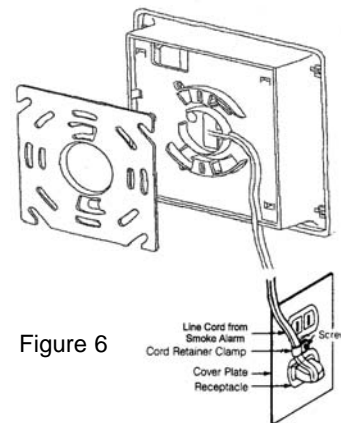

Figure 6
1. Care should be taken to lace cord through slots in base as show in in Figure 6 to insure cord does not interfere with engagement of the mounting bracket.
5. Use the enclosed cord retainer clamp as illustrated in Figure 6 to insure the unit is not accidentally disconnected.